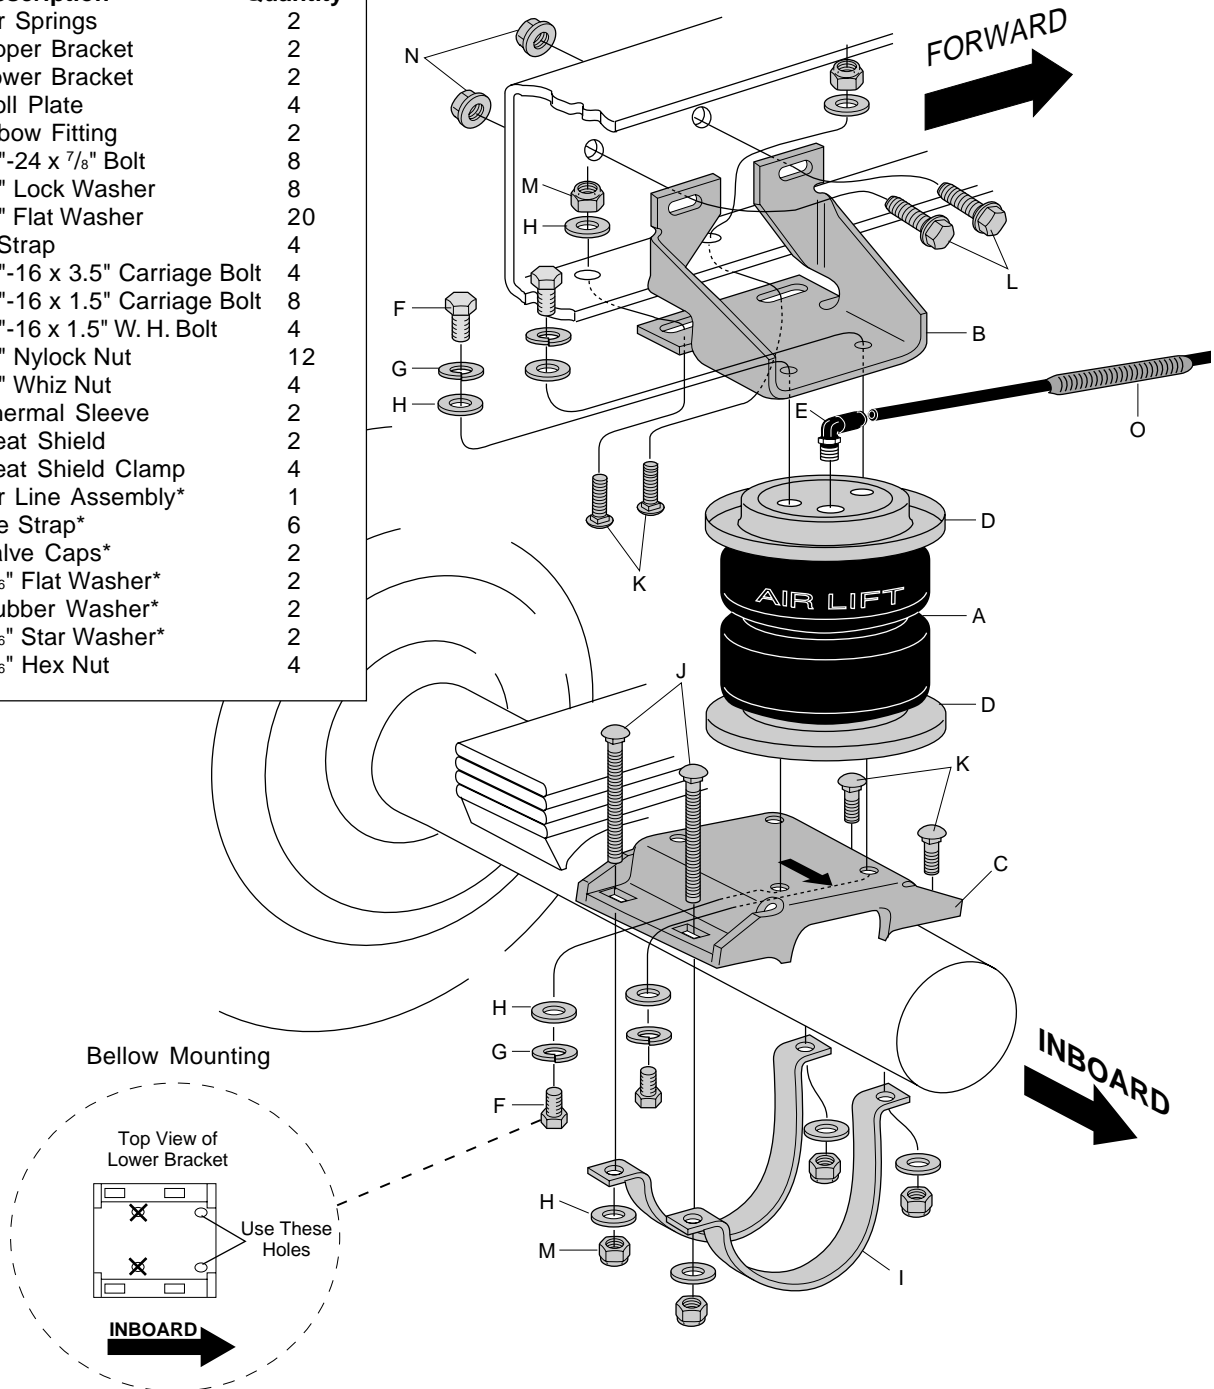

Figure 1
2. Install the roll plates (D) to the top and bottom of the bellow (A).
3. In the forward holes on the lower bracket, insert two $\frac{3}{8}" \times 1.5"$ carriage bolts (K). In the rearward holes on the lower bracket, insert two $\frac{3}{8}" \times 3.5"$ carriage bolts (J). NOTE: Be sure the rounded head of the carriage bolts faces the bellow (Figure 1).
4. Attach the lower bracket (C) to the bottom of bellows using two $\frac{3}{8}" \times \frac{7}{8}"$ bolts (F), two $\frac{3}{8}"$ lock washers (G), and two $\frac{3}{8}"$ flat washers (H). See Figures 1 & 4.
6. Attach the upper bracket (B) to the top of the bellows with two $\frac{3}{8}" \times \frac{7}{8}"$ bolts (F), two $\frac{3}{8}"$ lock washers (G), and two $\frac{3}{8}"$ flat washers (H). See Figure 1.
4. Secure the lower bracket with the two J-straps (I) and corresponding nuts, bolts, and washers (Figures 1 & 4).